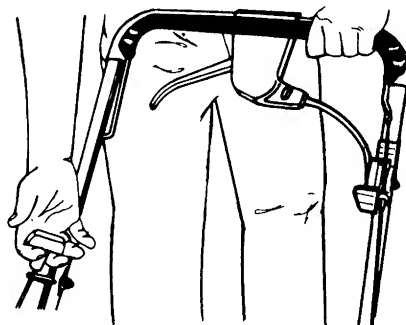

FIGURE 13.
3. Standing behind the unit, depress the blade control handle and hold it against the upper handle as shown. See figure 13.